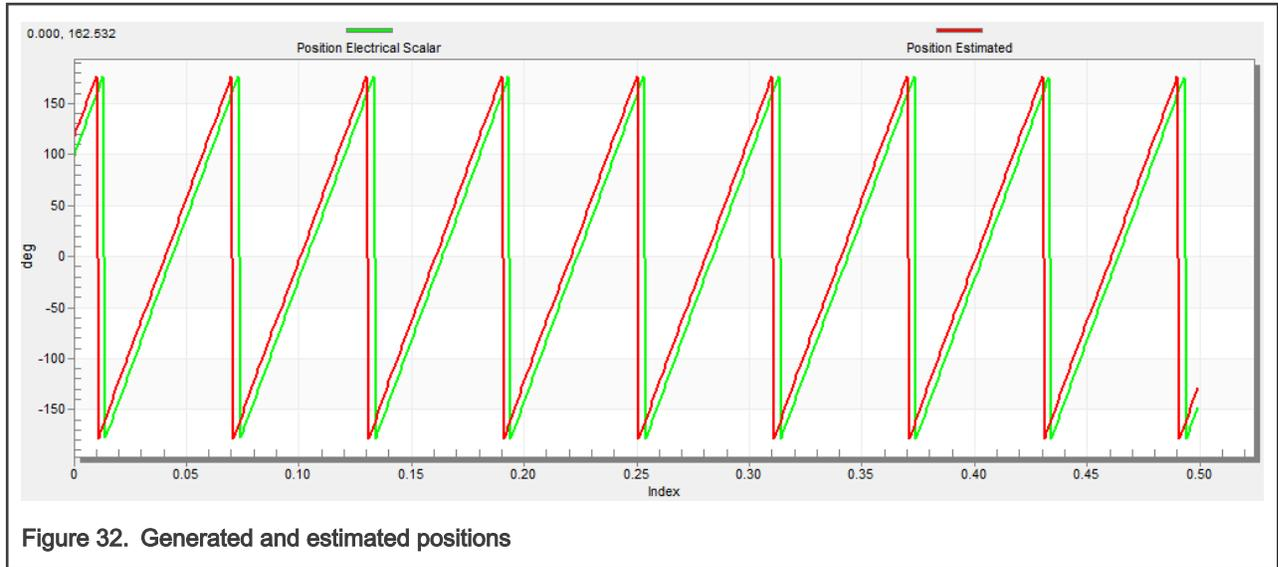

Figure 32. Generated and estimated positions
6. Select the “Position” recorder to check the observer functionality. The difference between the “Position Electrical Scalar” and the “Position Estimated” should be minimal (see Figure 32) for the Back-EMF position and speed observer to work properly. The position difference depends on the motor load. The higher the load, the bigger the difference between the positions due to the load angle.